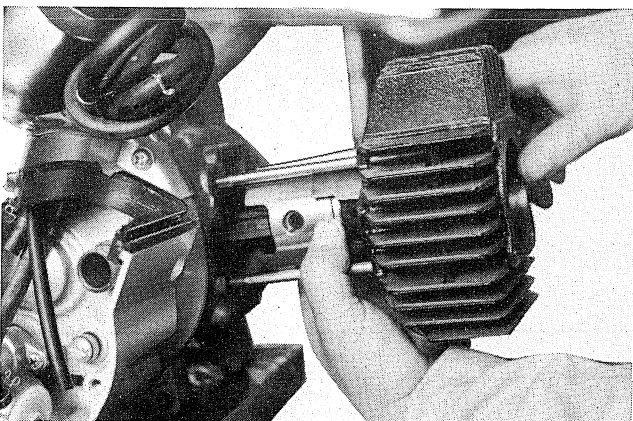

Fig. 3-3-4
- 2) When installing the cylinder over the piston, squeeze the piston rings into their grooves (The ring ends should be positioned close on the respective locating pins), so that they will not catch and break on the bottom of the cylinder. (Careless handling may break rings.) (Fig. 3-3-4)